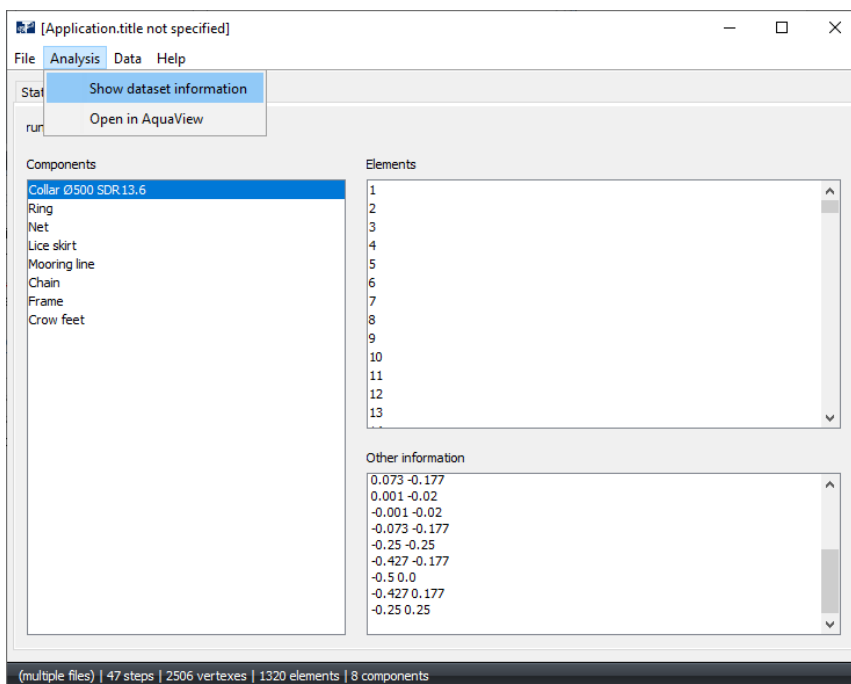

Figure 6 Show dataset information
**Show dataset information** provides basic information about the different components in the AquaSim-model. In the Components section, click on the element to view the element ID-number and other information such as breaking load, line width and cross section coordinates. This is illustrated in Figure 6.